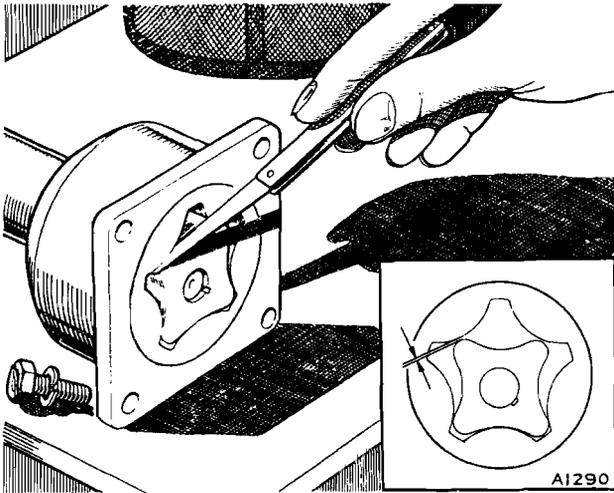

Fig. A.25
- (1) Install the rotors in the pump body, place a straight-edge across the joint face of the pump body, and measure the clearance between the top face of the rotors and the under side of the straight-edge. The clearance should not exceed .005 in. (.127 mm.). In cases where the clearance is excessive this may be remedied by careful lapping of the pump body face.
- (2) With the rotors installed in the pump body measure the clearance between the rotor lobes when they are in the position shown in Fig. A.25. If the clearance is in excess of .006 in. (.152 mm.) the rotors must be renewed.